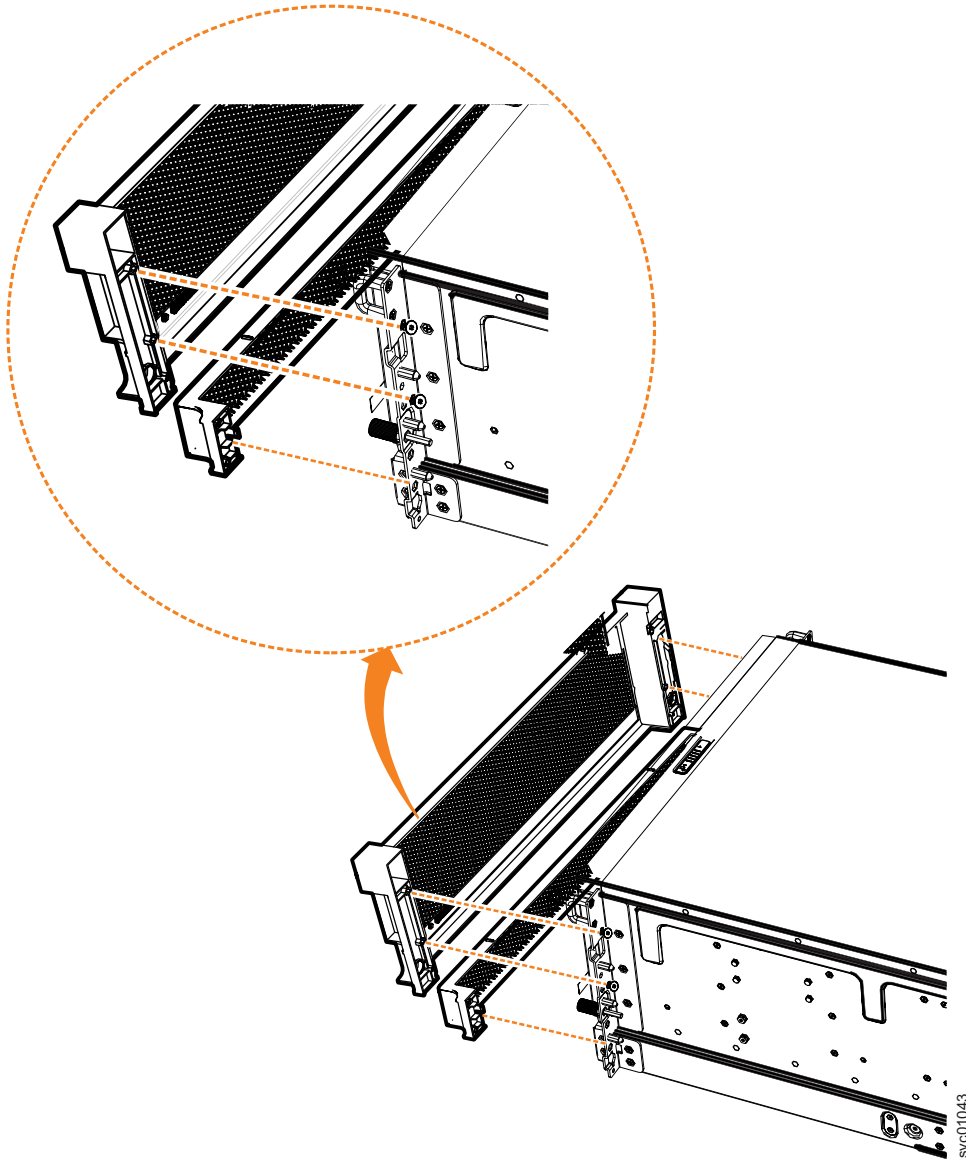

Figure 69. Replace fascia components on the expansion enclosure
2. Align the front 4U fascia with the enclosure so that the thumbscrews go through the holes on each side. As Figure 69 on page 84 shows, this action aligns the screw holes on the back of the fascia with the screw holes on the front flange of the enclosure.
4. Reattach the bottom 1U fascia that covers the power supply units (PSUs). Align the fascia with the enclosure and gently push it until it clicks into place on the chassis, as shown in Figure 69 on page 84.